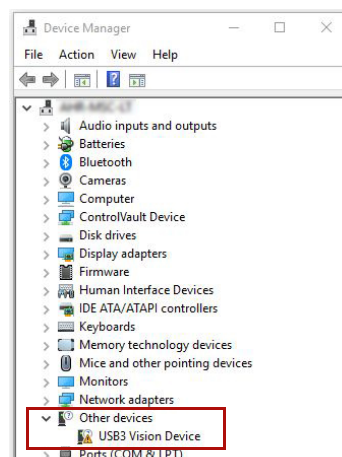

Figure 98: Windows Device Manager, unrecognized USB3 Vision camera
2. Disable the new found **USB Composite Device** and enable it again. This creates the entry under the section **Other Devices** as shown in Figure 98.